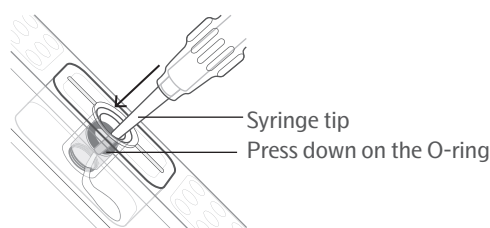

Figure 13. Injecting control line fluid into the chip
5. Use the syringe tip to press down gently on the black O-ring to move it (Figure 13). Visually confirm that the O-ring has moved.